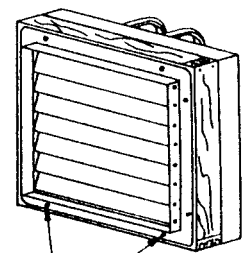

FIG. 3
STEP 7—Stand assembly upright with motor at top and position shutter on outside of frame. Secure shutter with (8) wood or lag screws (number 12 x 1" preferred) through holes in shutter frame. See Fig. 3.